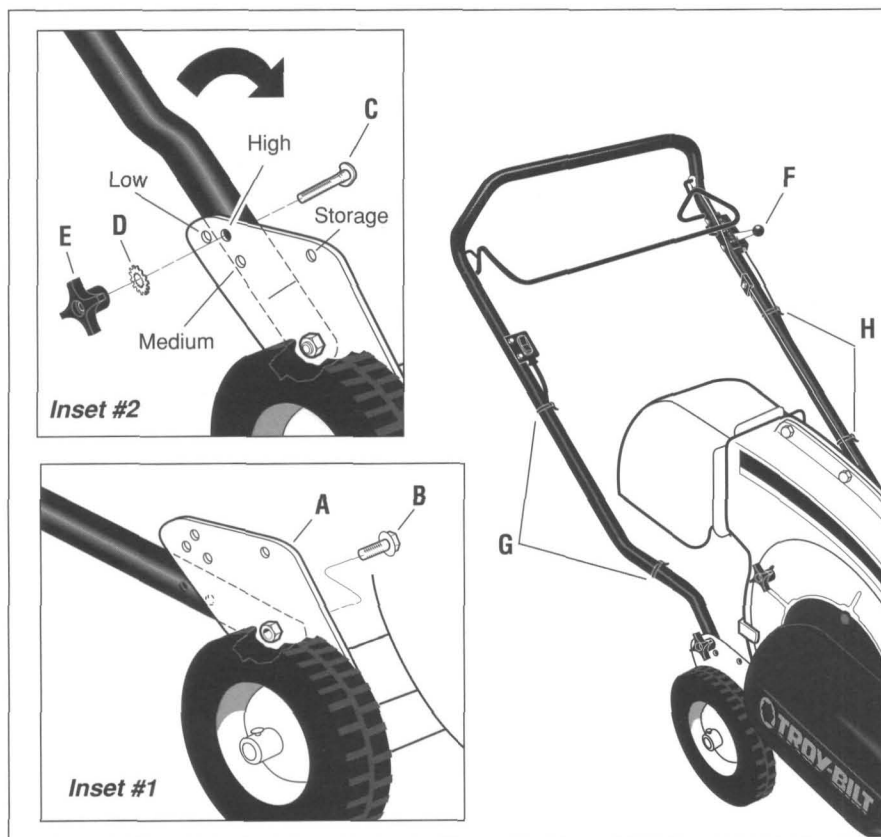

Figure 2-2
**B.** With the curved end of the handlebars facing up, place the two handlebar ends on the **inside** of the handlebar mounting brackets (**A**, Inset #1, Figure 2-2). On the 5HP model, be careful not to severely bend the gear shift lever cable attached to the left side handlebar.
**C.** Loosely install a 5/16"-18 x 5/8" flange lock hex head screw (**B**, Inset #1, Figure 2-2) through the **lower** holes in each handlebar and mounting bracket.
also a **Storage** position which places the handlebars upright. Refer to Inset #2, Figure 2-2 to identify the bracket holes that are used for the various positions.
**D.** Secure the switch wire to the handlebar with two cable ties (**G**, Figure 2-2). Leave the ties a little loose to allow the wire to "stretch" if the handlebars are later placed in the storage position. Trim off any excess tie length with scissors.
The GEAR SHIFT LEVER (**F**, Figure 2-2) is attached to the left side handlebar. The cable leading from the lever must be connected to the transaxle (transmission) inside the mainframe.
**B.** Move the GEAR SHIFT LEVER (F, Figure 2-2) to the No. 4 setting as indicated on the decal (push lever all the way forward until it stops moving).
**D.** Secure the gear shift lever cable and the wheel drive bail cable to the handlebar with two cable ties (H, Figure 2-2). Leave the ties a little loose to allow the cables to "stretch" if the handlebars are later placed in the storage position. Trim off any excess tie length with scissors.